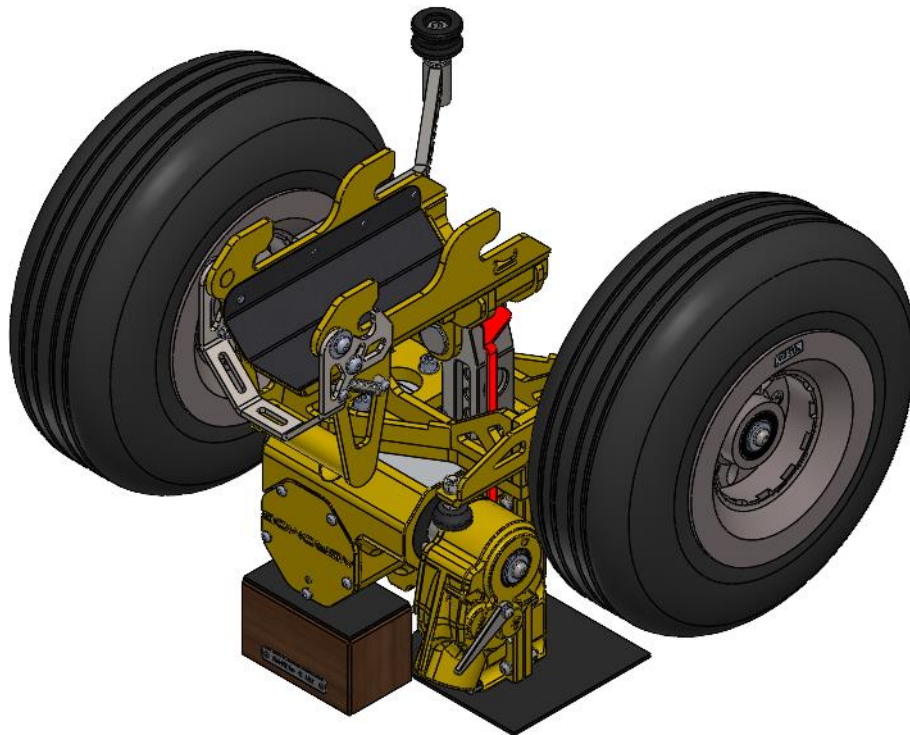

Figure 7
- d. With the block upside down and the gear rack all the way out, install the assembled wheels according to MM-AM-HDM-145-K01/4-3. See Figure 7.